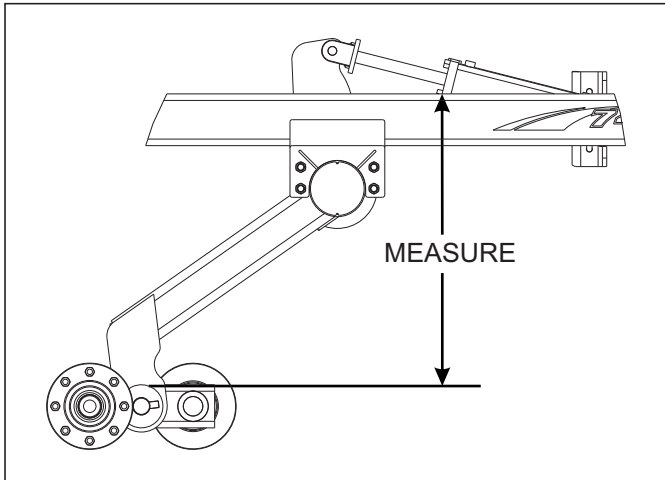

Figure 4-7: Leveling from Side to Side
- d. Measure the distance from the walking beam spindle to the top of the frame on both sides. If there is a difference, it needs to be adjusted by turning the cylinder rods with the wrench flats provided at the clevis end (**See Figure 4-7.**)
- d. On the center frame, measure the distance from the welded washer to the top side of the frame (**See Figure 4-7.**)